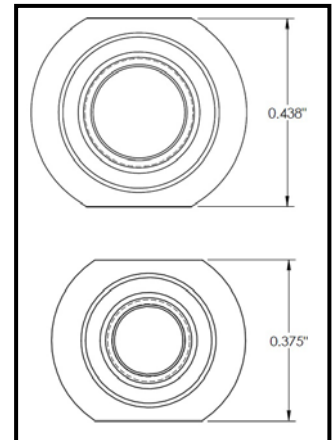

FIGURE 6 – Lower Bushing
16. Determine if the lower eyebolts need to be replaced. Measure the lower lift strut bushing head flats (see Figure 6). If distance measured is 0.375", continue to step 16. If distance measured is 0.438" then skip to step 29.